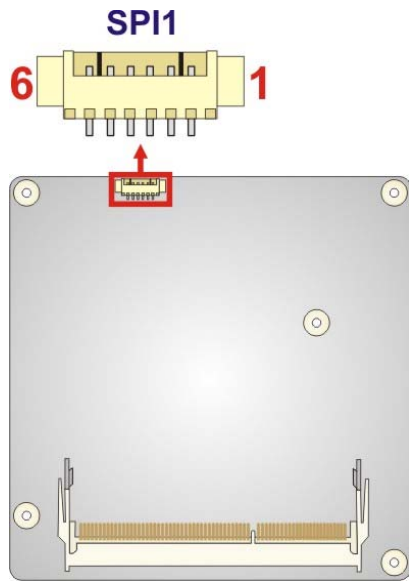

Figure 3-5: SPI Flash Connector Location
- CN Location:** See **Figure 3-5**